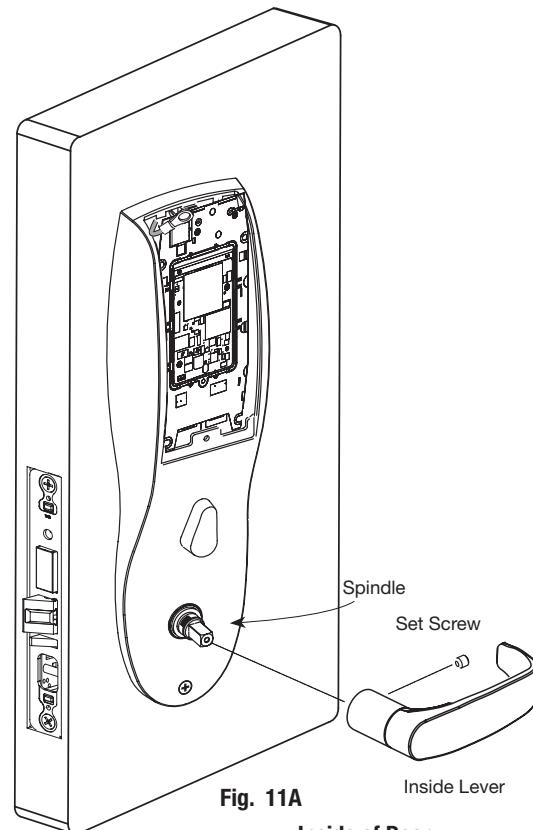

Fig. 11A
1. Slide lever handle onto spindle until fully seated (Fig. 11A).